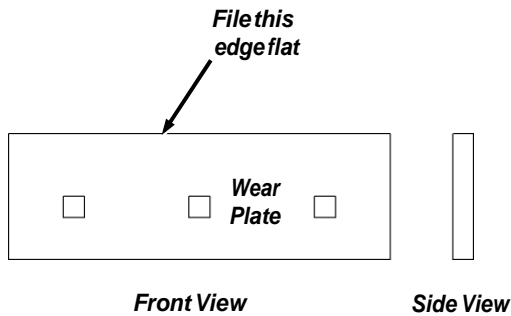

Figure 39
2. File the edge of the Wear Plate to take out any nicks and to square rounded edges (**Figure 39**).